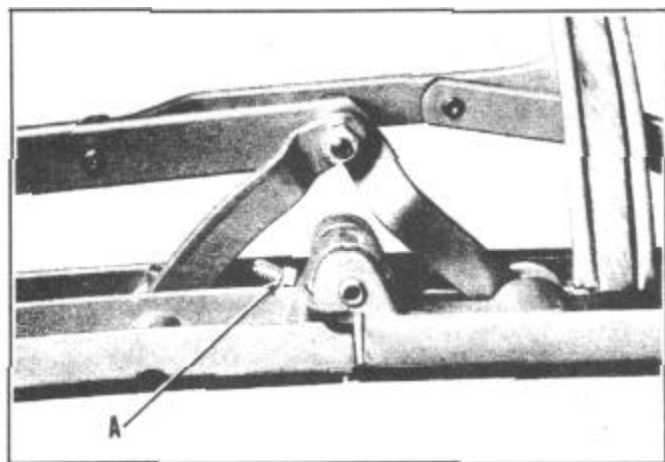

FIGURE 175
8. If, after these adjustments have been carefully made, the top side rails are not level with the top of the door window, adjust screw at (A), Figure 175. Turning the screw in lowers the side rails; turning the screw out raises the side rails. Retighten jam nut on adjusting screw.